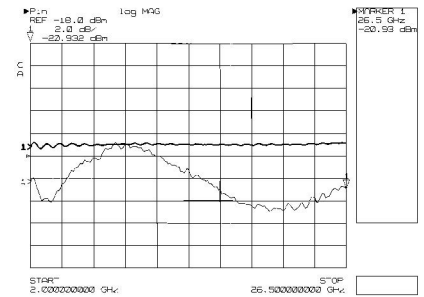

Figure 10. Test port power before and after a power meter calibration
1. Configure the system as shown in Figure 10. Connect the 437B power meter to the system bus of the 8510C. Zero and calibrate the power meter. Verify that the address of the power meter matches the setting in the network analyzer. The default address for the 437B is 13.